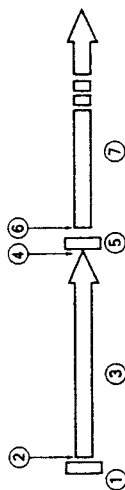

Figure 11
- Figure 11 shows the relationship between the play and pause